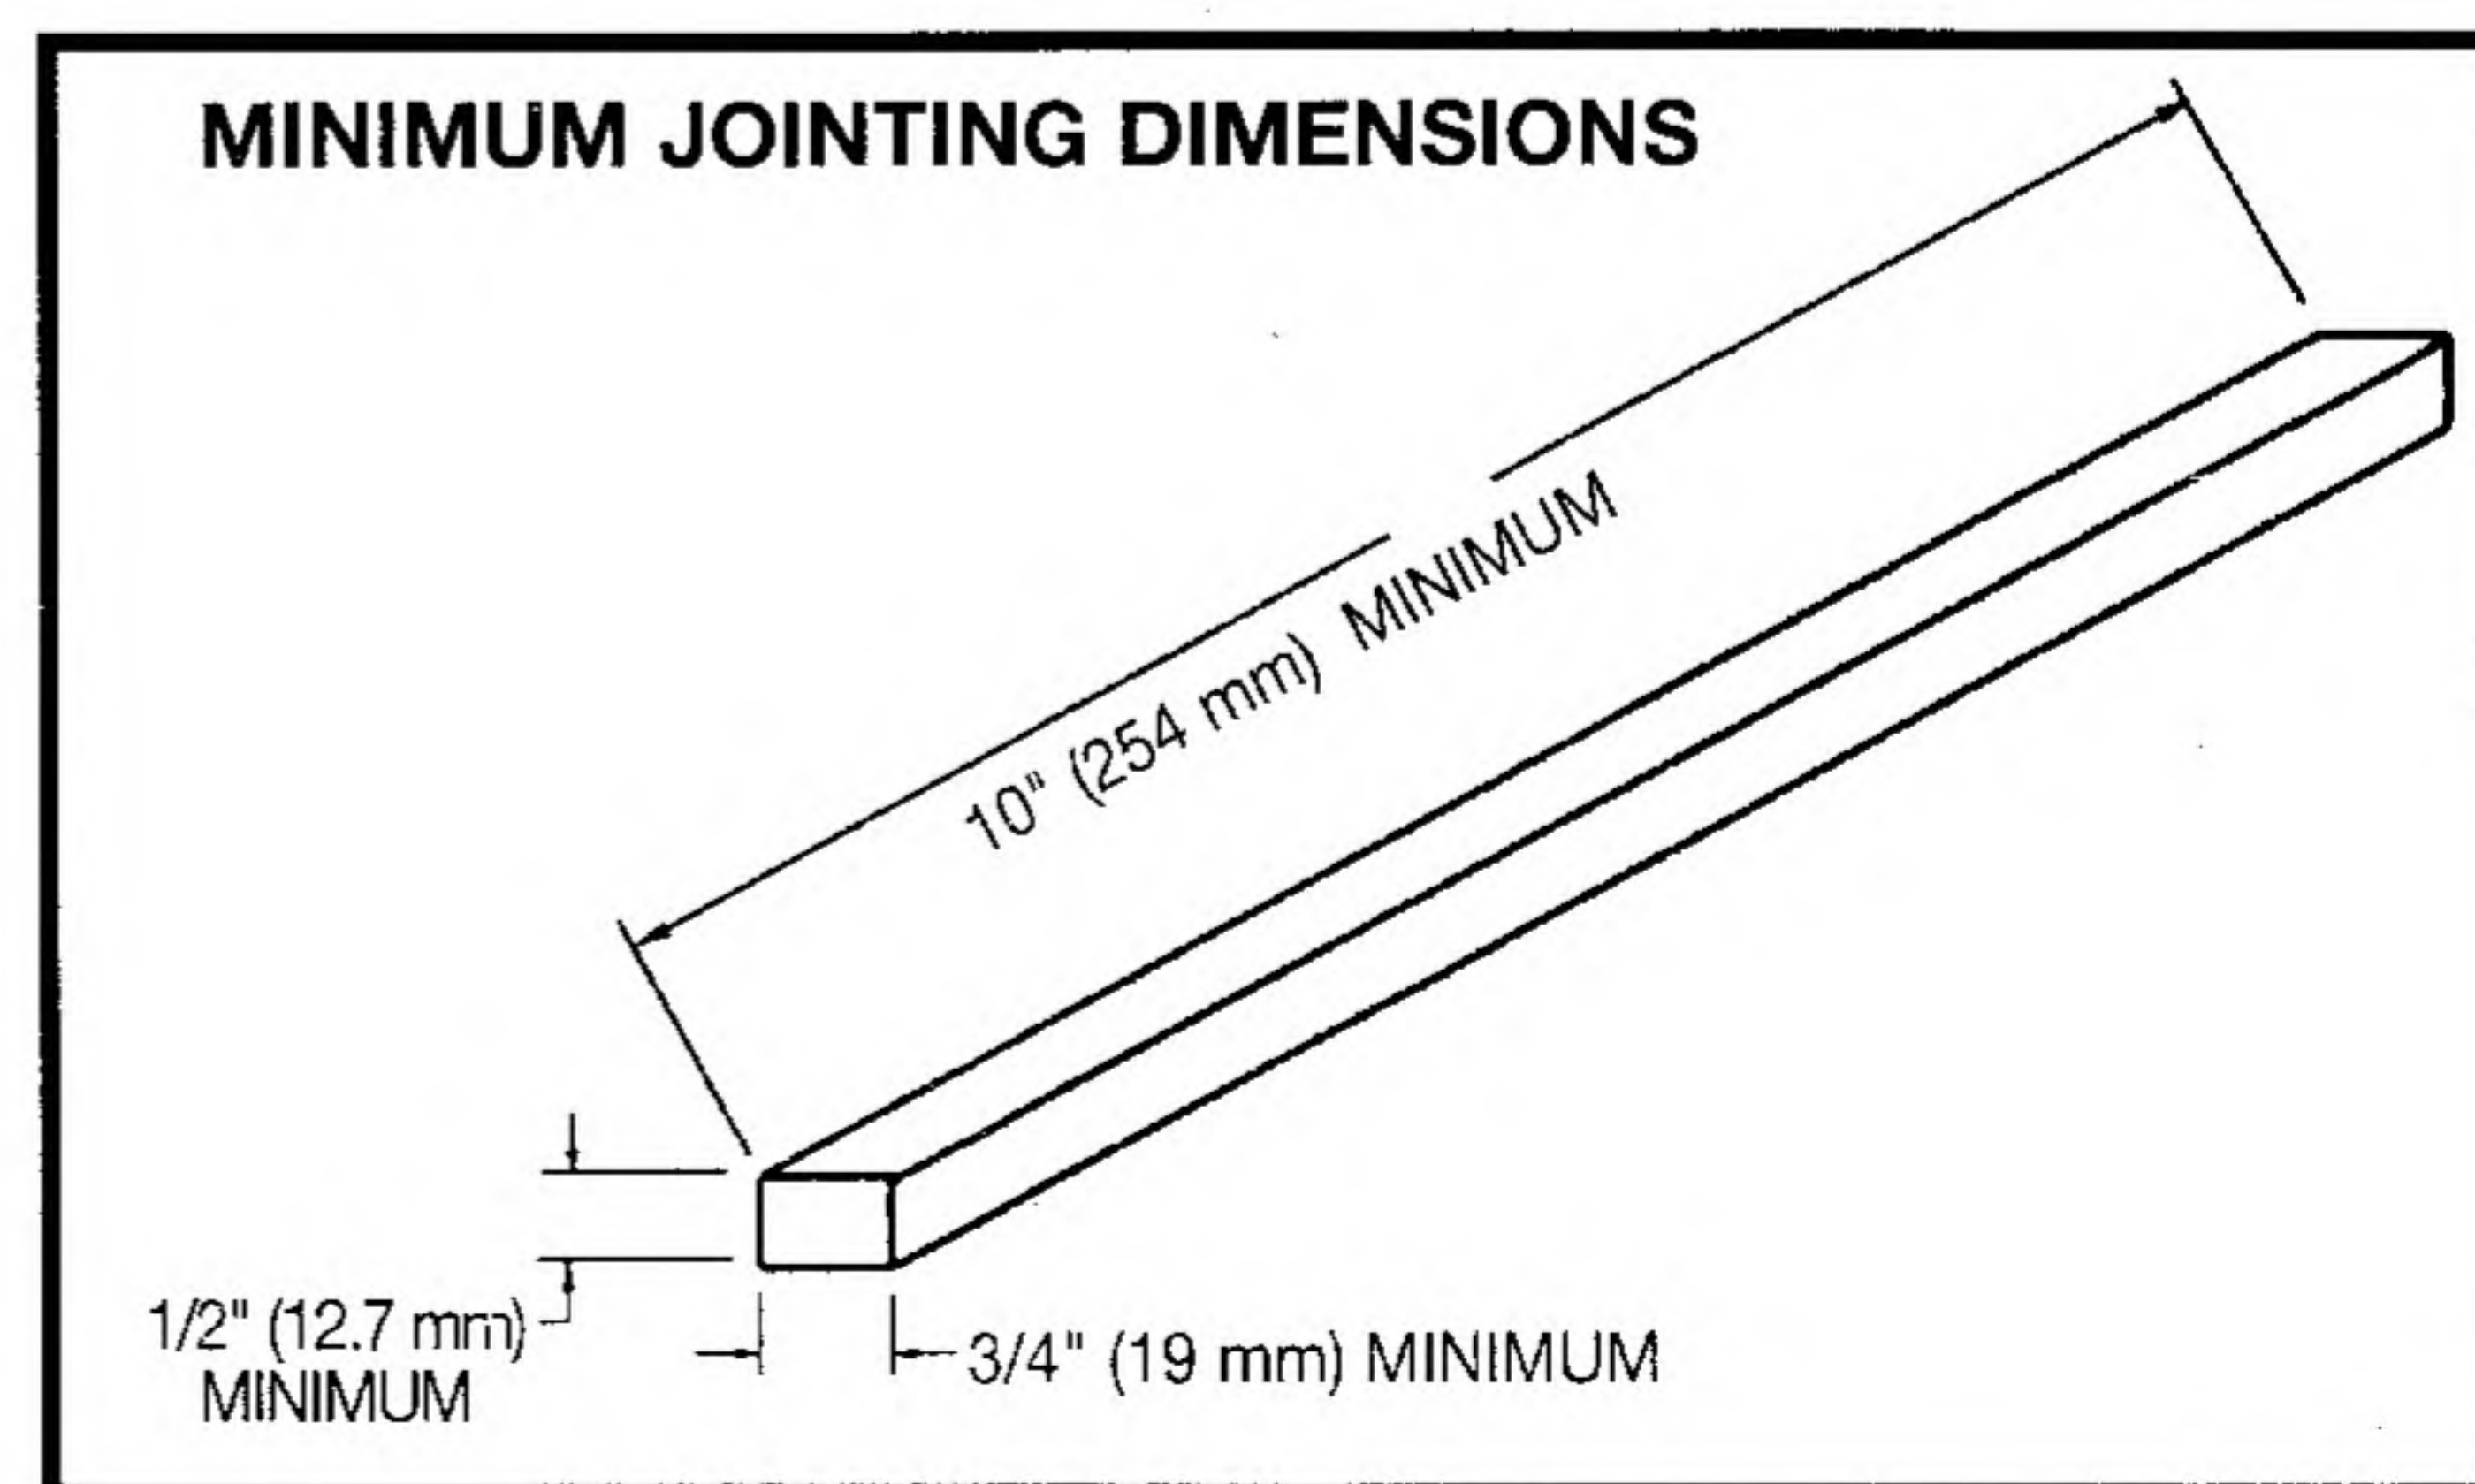

Fig. 39
**⚠ WARNING** DO NOT PERFORM JOINTING OPERATIONS ON MATERIAL SHORTER THAN 10 INCHES (254 mm), NARROWER THAN 3/4 INCH (19 mm), OR LESS THAN 1/2 INCH (12.7 mm) THICK (REFER TO FIG. 39).